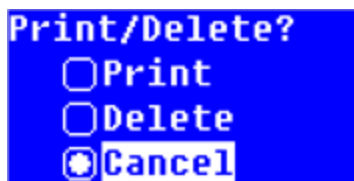

Fig. 3-9
**Data printing:** User can print the data if a micro-printer is connected. When it shows data records in the measurement interface, press “PRINT CLEAR” to enter the Print/Delete selection interface (Fig. 3-9), press “▲” and “▼” to select “Print” and press “ENTER START”, then data records will be printed out. Otherwise, select “Cancel” and press “ENTER START”, or directly press “ESC STOP” to return to the measurement interface.
**Data deleting:** If user wants to delete the data records in the measurement interface, or the storage space is full, user can press “PRINT CLEAR” to enter the Print/Delete selection interface (Fig. 3-9), press “▲” and “▼” to select “Delete” and press “ENTER START”, the data records will be cleared.